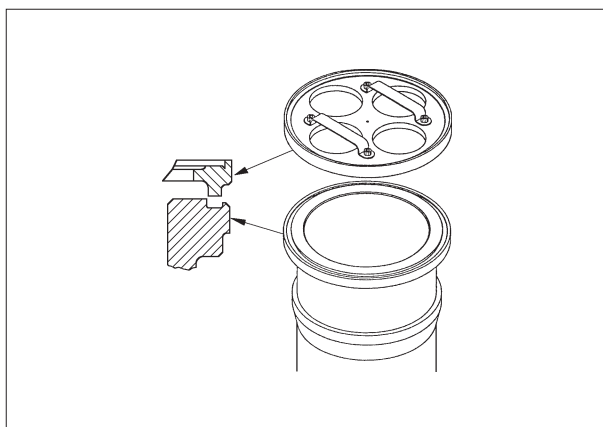
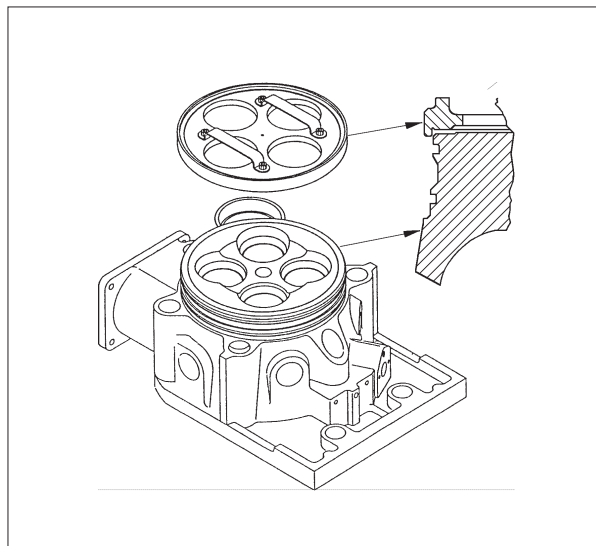

Fig 2.
Fig 3.
2) Face-grind the sealing grooves in the cylinder liner flange, see Fig 2, and the sealing surface on the cylinder head, see Fig 3, with the use of grinding pasta and the grinding tool.